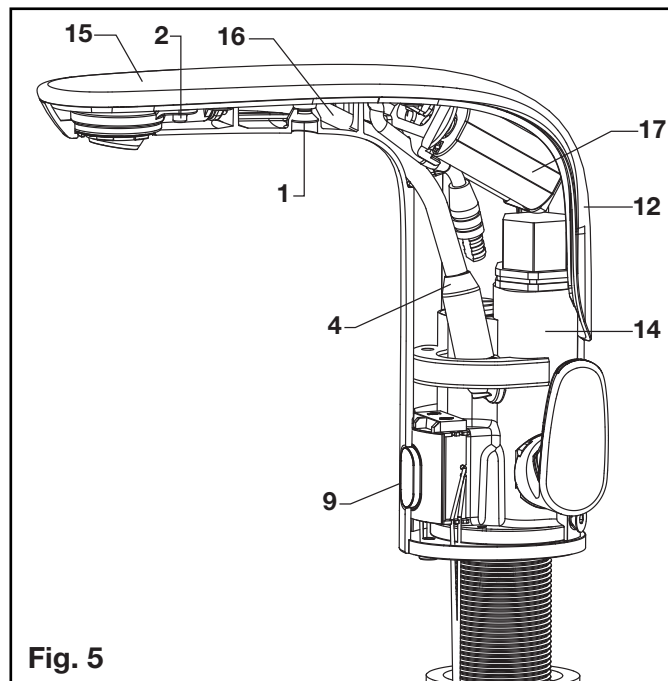

Fig. 5
B REPLACE BATTERY; Fig. 5, 6
3. Push BATTERY (17) forward and Pull it out. (Fig. 5)
C CHANGE SENSOR DETECTION RANGE; Fig. 5, 6